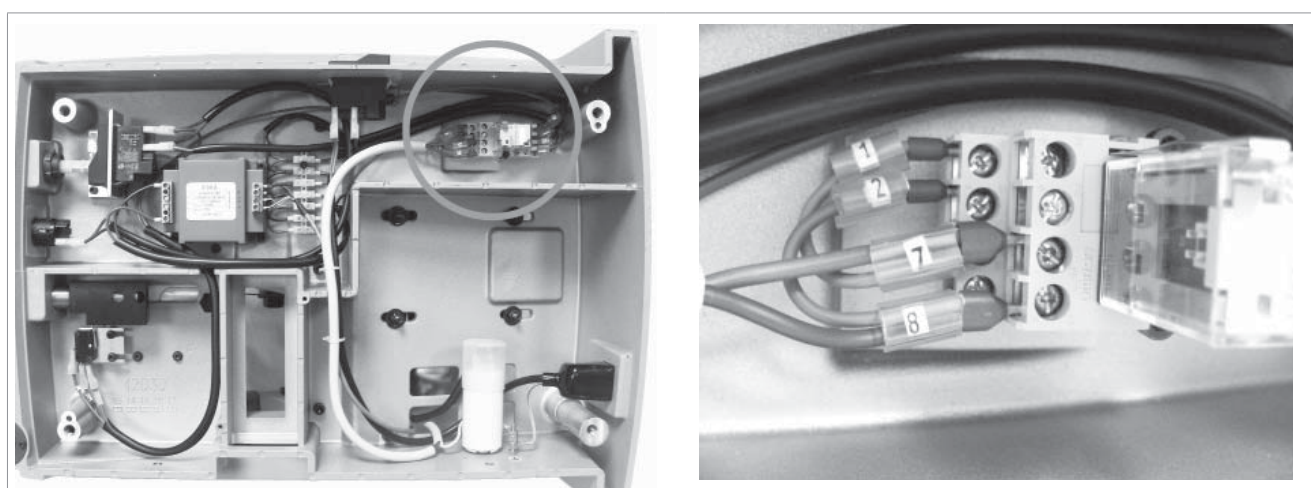

Fig.85
- 8) Loosen the screws (1, 2, 7, 8) and disconnect the wiring from the relay (observe the right position carefully) (Fig.85).